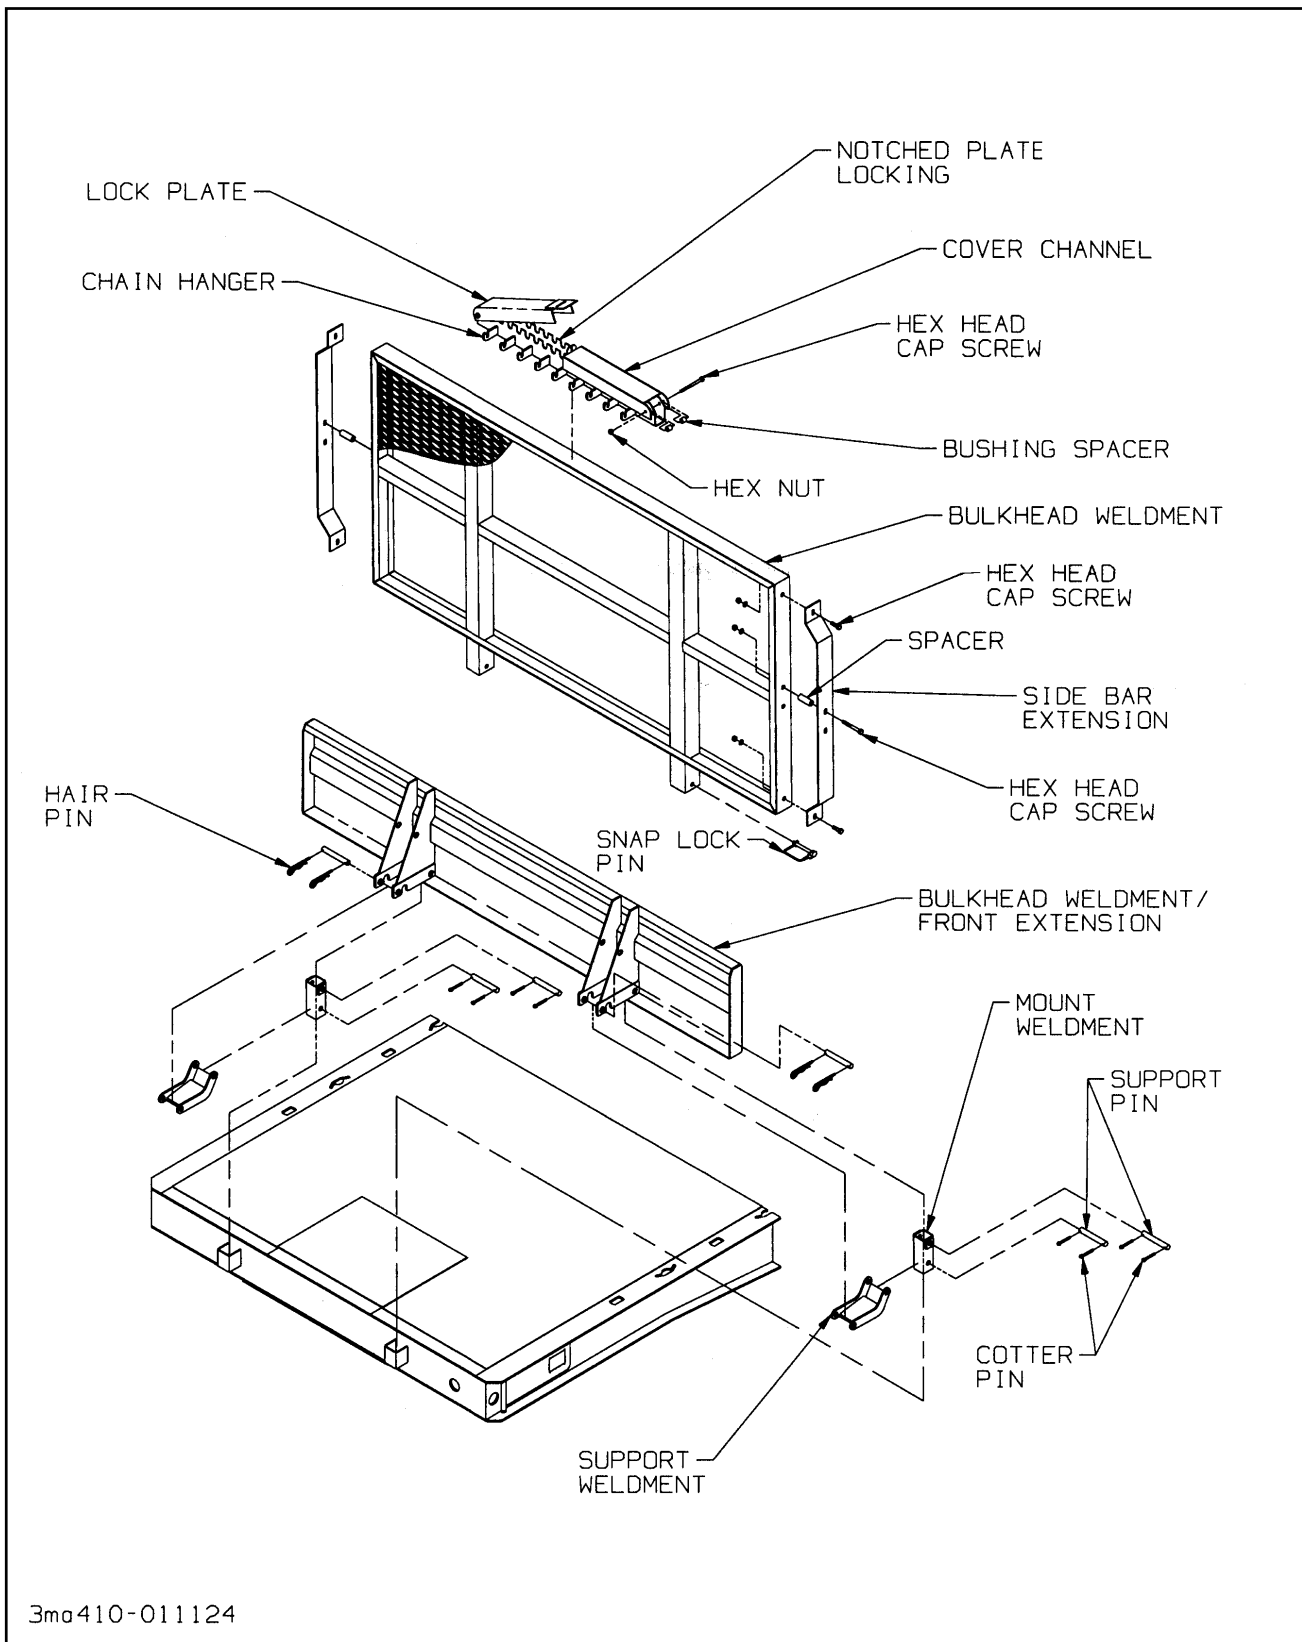

Figure 3-12 Front Extension/Bulkhead
- 3-18.2** To use the front extension as an extension, remove the front-most pin from the bracket. Lower the extension to a horizontal position. Replace the front-most pin in its new position. To use the extension as a bulkhead, simply return the extension to its original position. **(See Figure 3-12)**